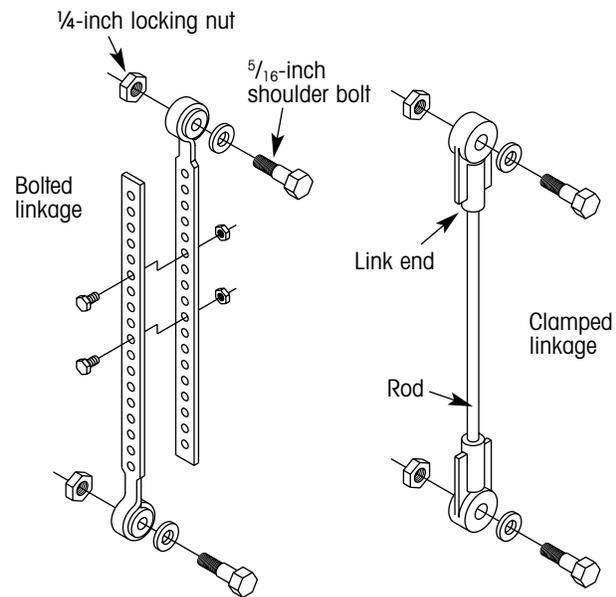

Figure 9. Types of height control valve linkage
8. Attach the height control valve linkage. Fasten one end of the linkage to the height control valve control arm and the other end to the suspension beam. Tighten the 1/4-inch locking nut onto the 5/16-inch shoulder bolt until snug. Ensure that the links rotate freely and do not bind. Two types of linkage are available (figure 9):